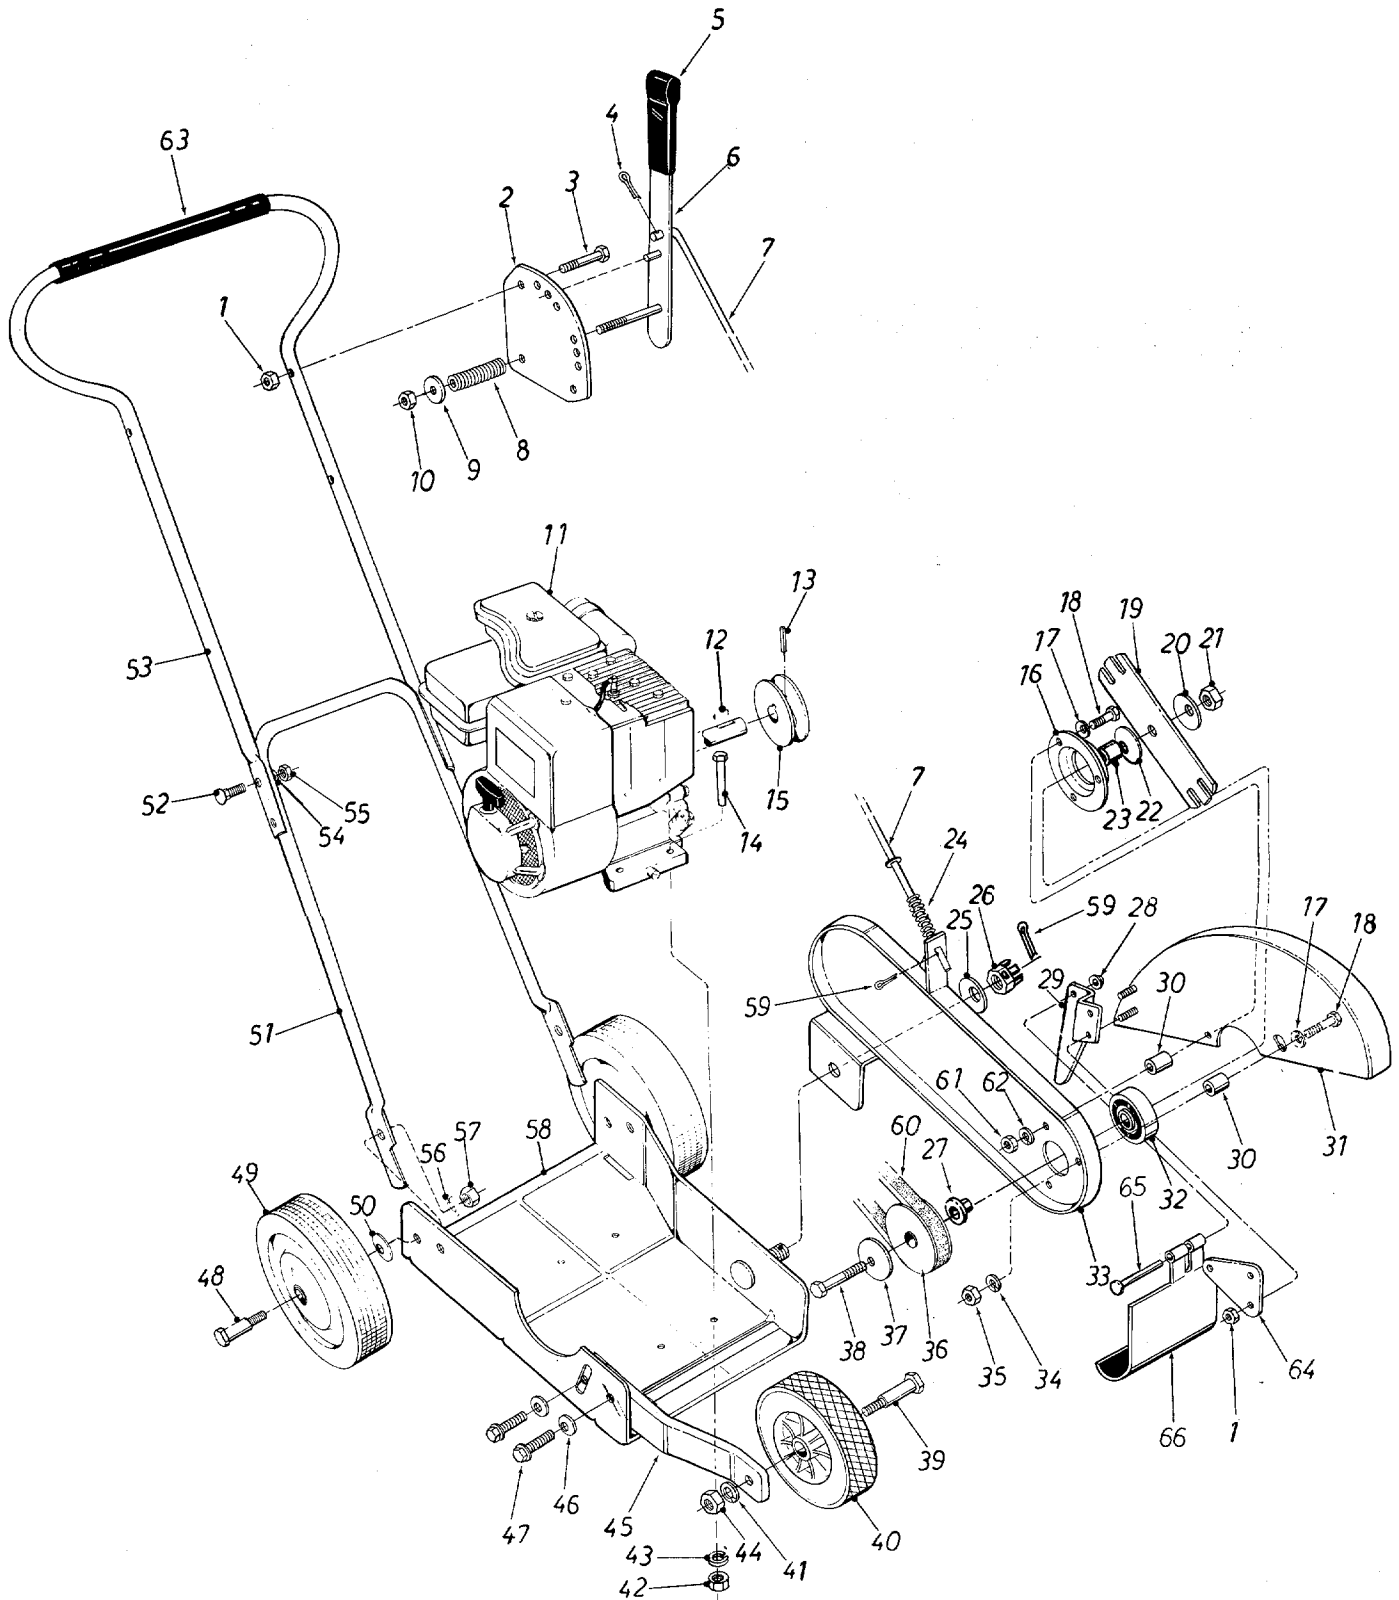

**FIGURE 15**
3. Lift off the hex castle nut, Belleville washer and belt cover. See figure 15.
5. While the belt cover is removed it is a good idea to apply a little grease to the pivot point on belt cover. See figure 15.
7. When tightening the castle nut (DO NOT OVER TIGHTEN) only tighten enough to line up hole in bolt for cotter pin. Belt cover must pivot freely. See figure 15.